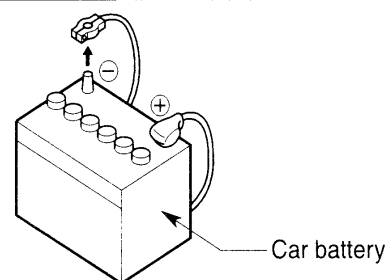

Figure 1
3. Be sure to disconnect the battery "terminal" before starting. This is to prevent short circuits during installation. (Figure 1)